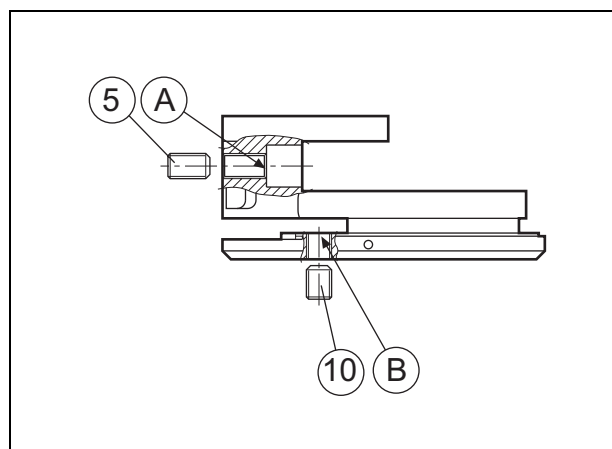

Fig. 43 Stop screws in bar holder
7. The stop screw (5), W = 6mm, must never be screwed in further than to the back edge (A) of threaded hole. *See Fig. 43.*
8. Lock the stop screw (5) with the locking device and stop screw (6), W = 4 mm.
9. Tighten the guide screw (8) to the bottom, then tighten the stop screw (7) until it stops on the guide screw (8).
10. Lock the stop screw (7) with stop screw and locking device (9). Stop screw (10) must be tightened and locked with thread sealant at a distance of 1.5 mm (0.06") from the inside edge (B). *See Fig. 43.*